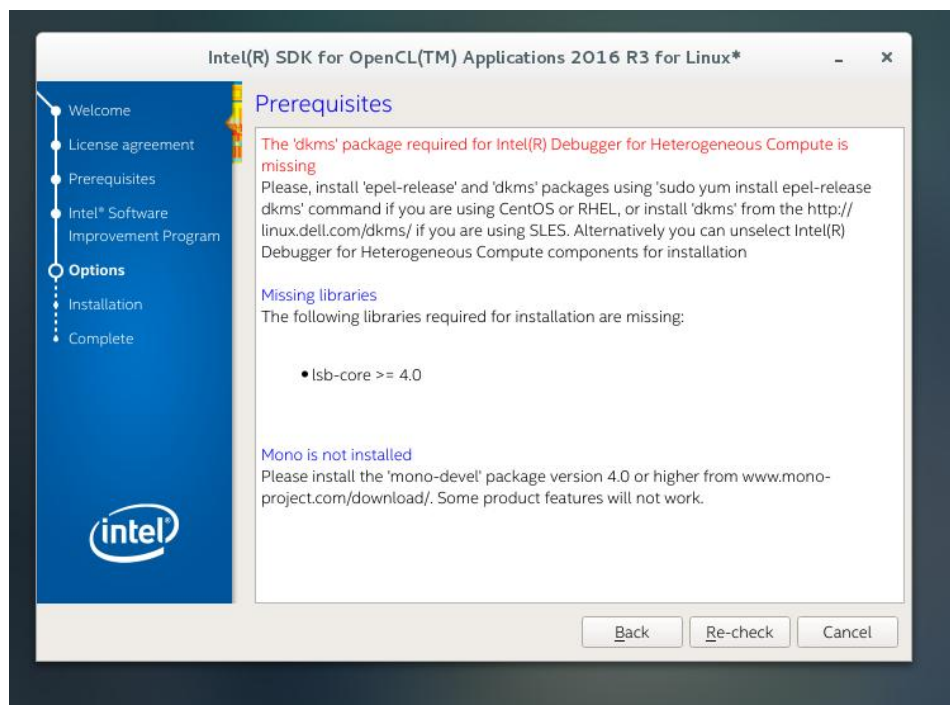

Figure 6: Intel OpenCL SDK dependencies
- Execute the command `./install_GUI.sh`. In case some packages required are missing you may get the following message as shown in Figure 6